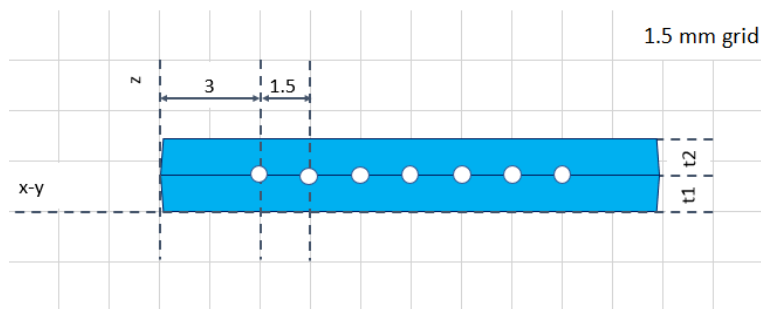

Figure 6: port position based on a 3 mm pitch
- For multi-port connectors and direct coupling (e.g. gluing) a 1.5 mm pitch can be used assuming the used connector and tubing are also compatible. For reliability reasons, it is not advised to use the first grid point, but keep a minimal distance of 3 mm to the side of the chip (see figure 6)